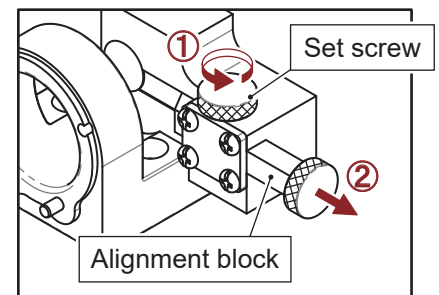

Fig. 8-1
1. Preset the position of the alignment block. (Fig. 8-1)
- ① Loosen the set screw by counterclockwise.
- ② Pull out the alignment block to the end.